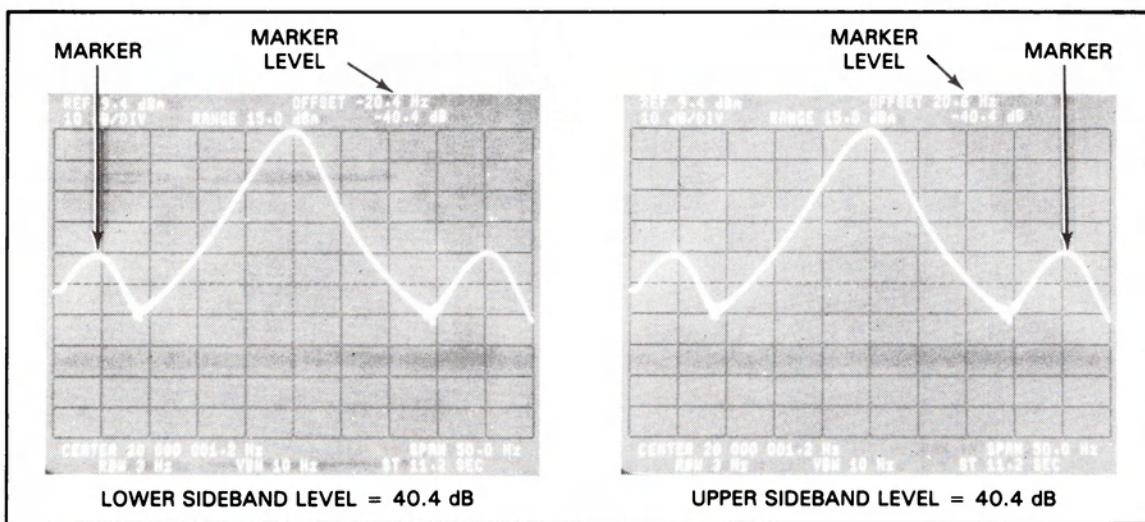

Figure 7-17. Upper and Lower PM Sideband Relative Levels
- h. Measure the upper and lower sidebands and record their relative levels (dBc) on the Performance Test Record card for the 20 Hz, 2 Hz, and 0.2 Hz sideband frequencies. (See Figure 7-17)